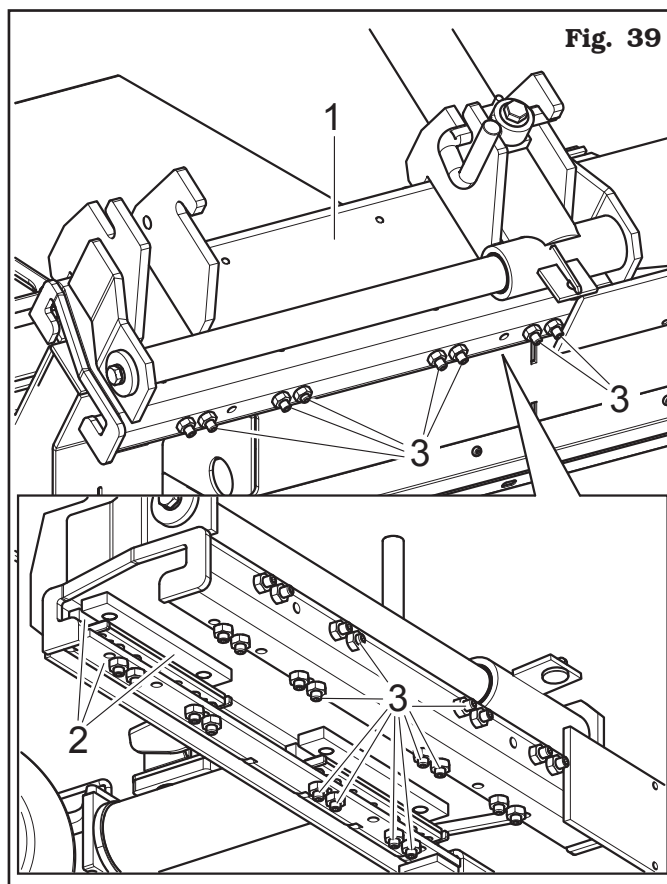

Fig. 39
B. Adjust the play of slide (Fig. 39 ref. 1) by means of the adjustment screws (Fig. 39 ref. 3) of the sliding blocks (Fig. 39 ref. 2).